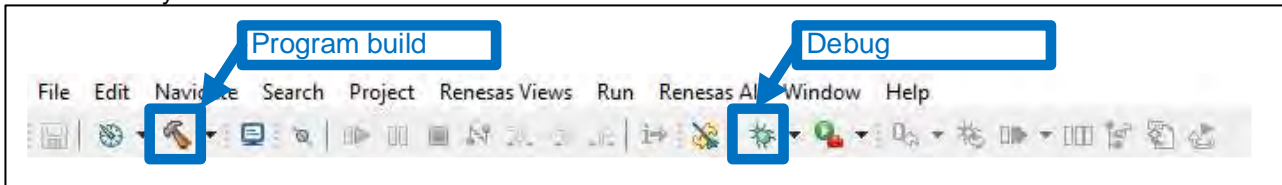
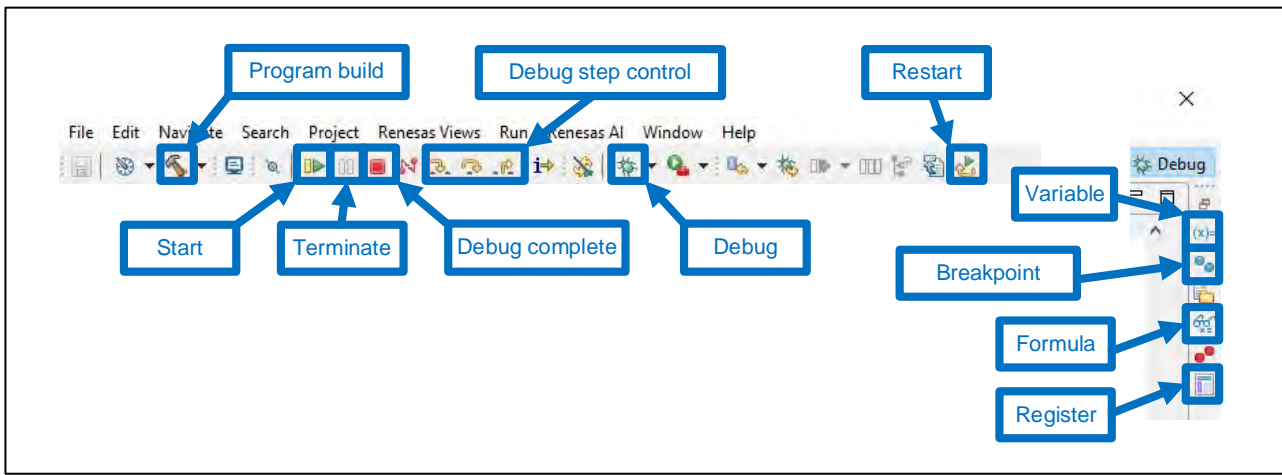
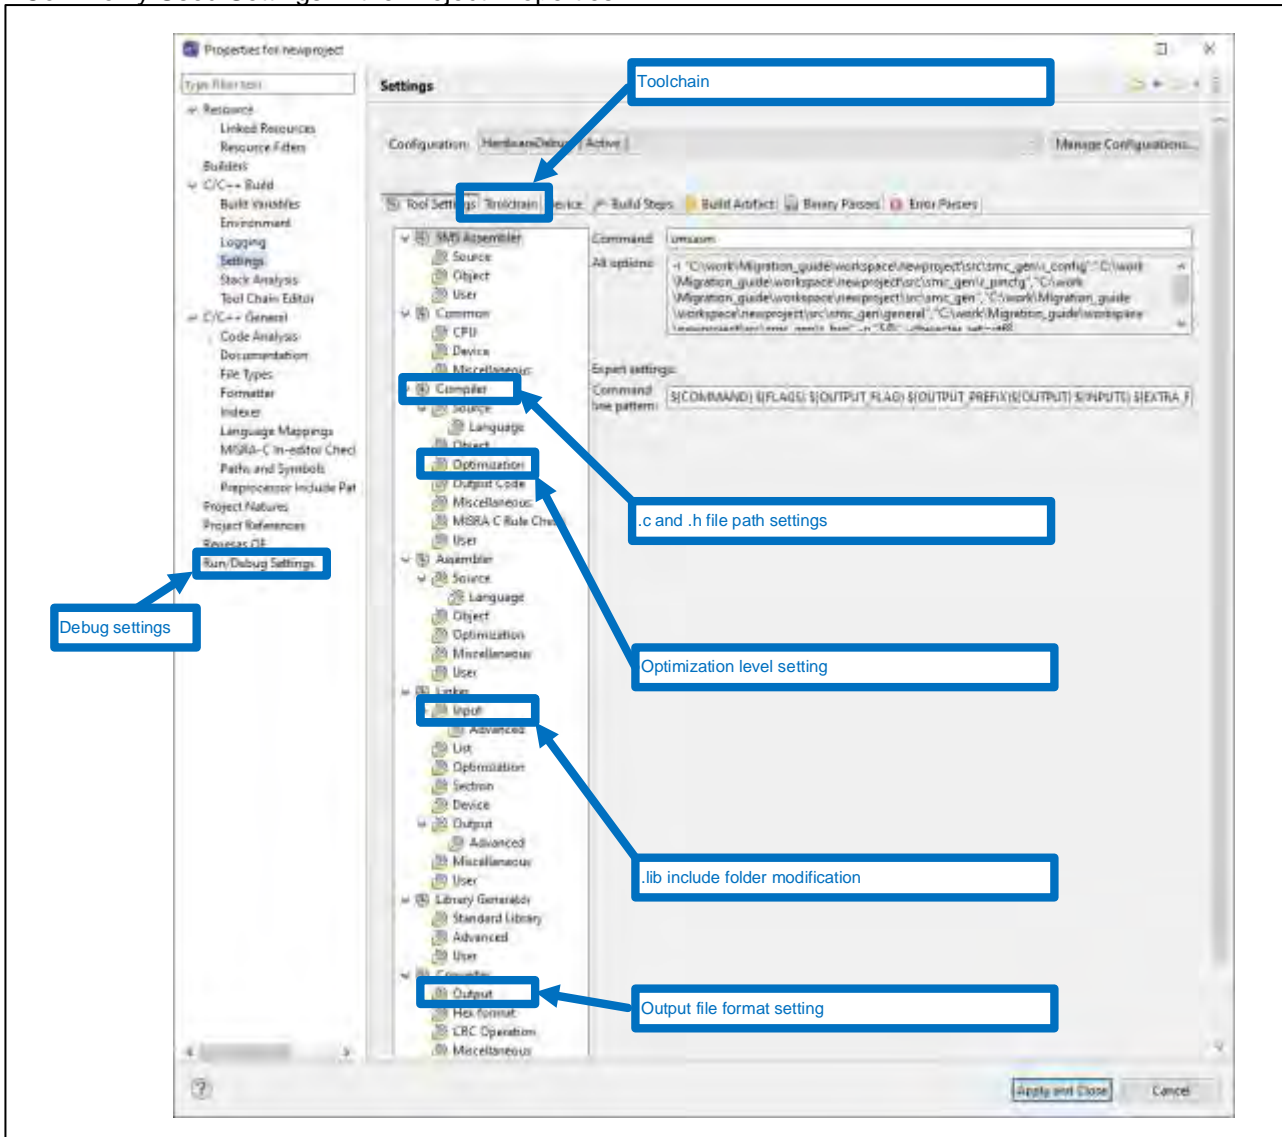
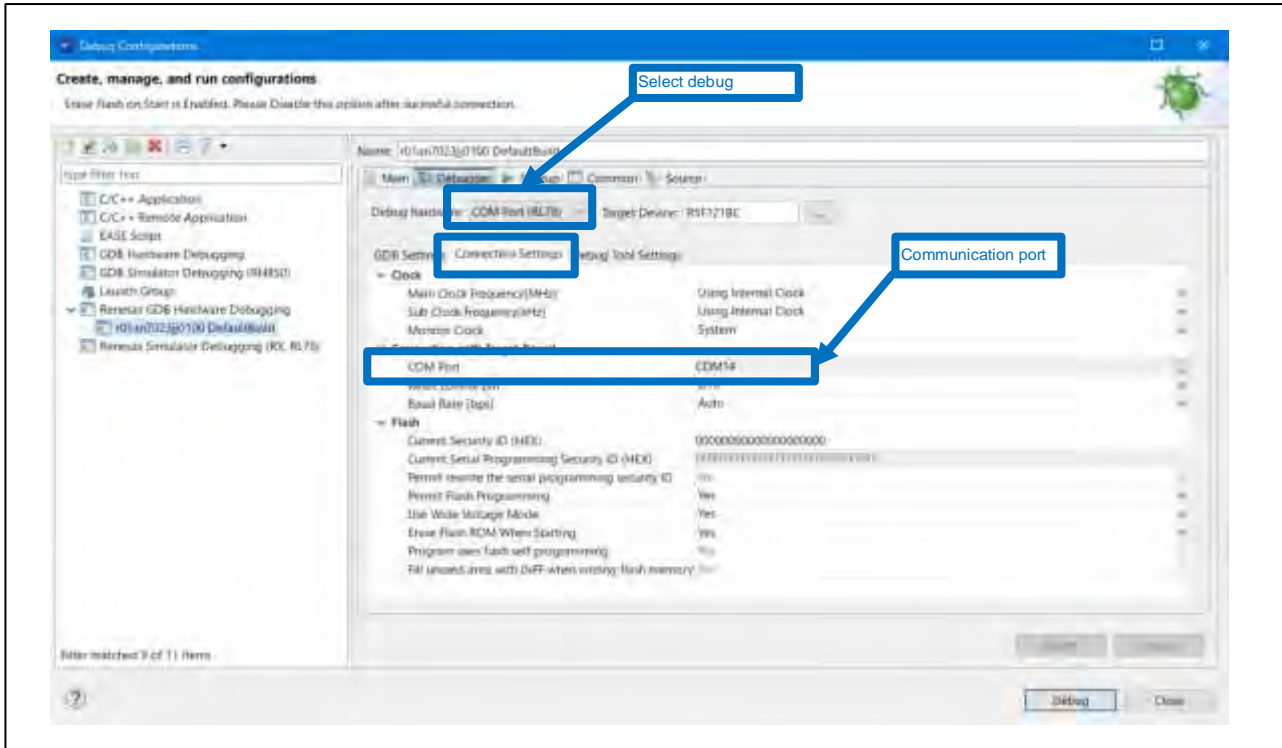

Figure 2-20 Commonly Used Functions
Figure 2-21 Commonly Used Debug Functions
Figure 2-22 Commonly Used Project Settings (1/2)
Figure 2-23 Commonly Used Project Settings (2/2)
(5) Figure 2-20, Figure 2-21, Figure 2-22, and Figure 2-23 are quick introduction of the e2studio functions.